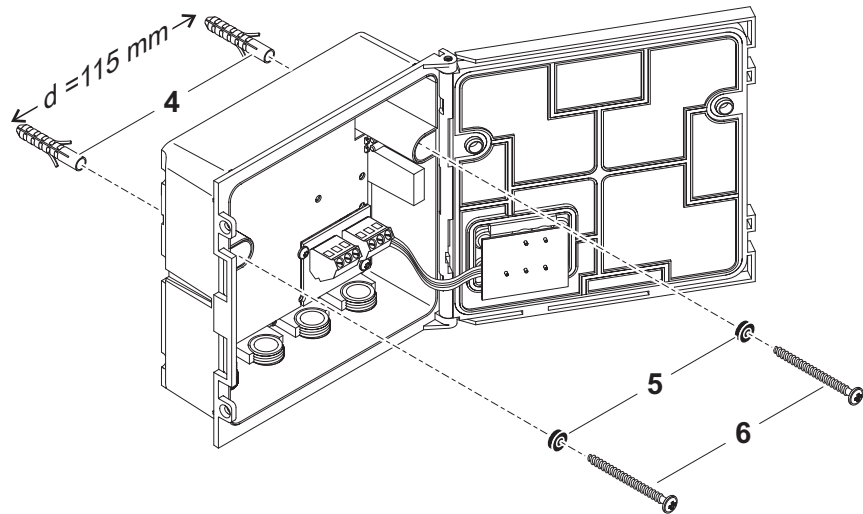

Fig. 3-13 Wall mounting
4	Screw the module to the previously drilled wall with the aid of the dowels (pos. 4 in Fig. 3-13), the washers (pos. 5) and the screws (pos. 6).